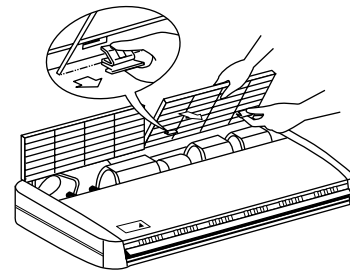

Fig. 4
- Keep the suction grille opened. Holding the knob on the back of suction grille, pull to the front direction to remove. (Refer to Fig. 4)